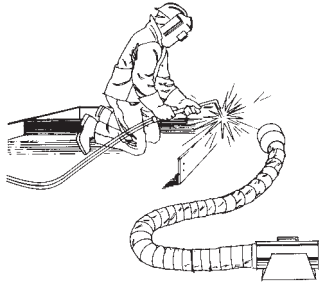

Figure 41-8: Portable Fume Extractor
- 1) Portable fume extractor with flexible ducting (Figure 41-8)